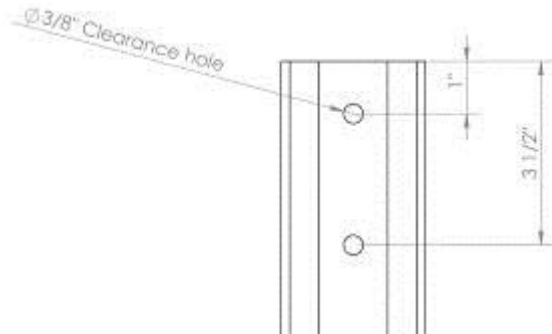

Fig. 4
12) Mark and drill the cut ends of the pivot tubes to accept the 45° elbows (see Fig. 4).
- 1) Drill one end of both of the 96" long pivot tubes per Fig. 4.